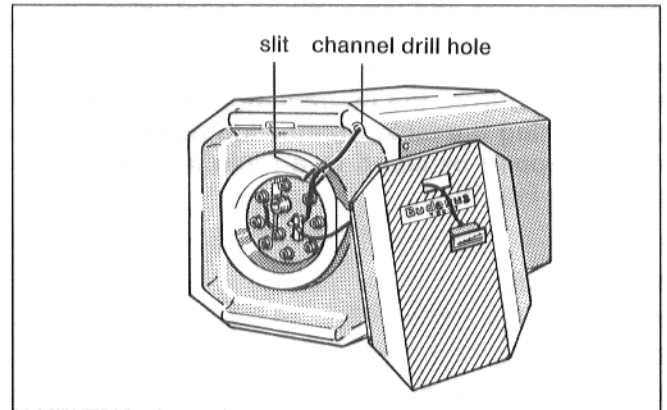

Fig. 7
- Pull the sensor out of the channel hole on the front of the storage tank and take it on to the sensor fastener on the inspection port lid (Fig. 7).